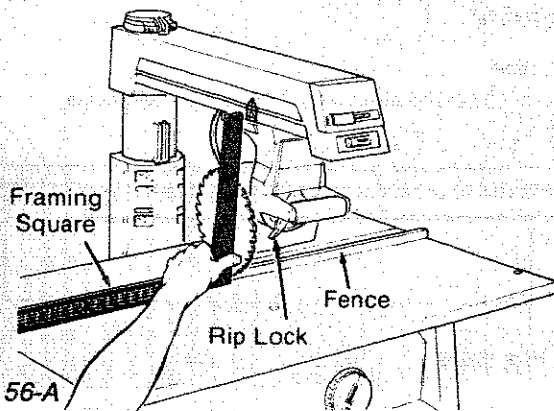

Fig. 56-A
7. If the square is flush with the *blade* after each rotation, no change is needed. (Figure 56-A) Go to the next section, or